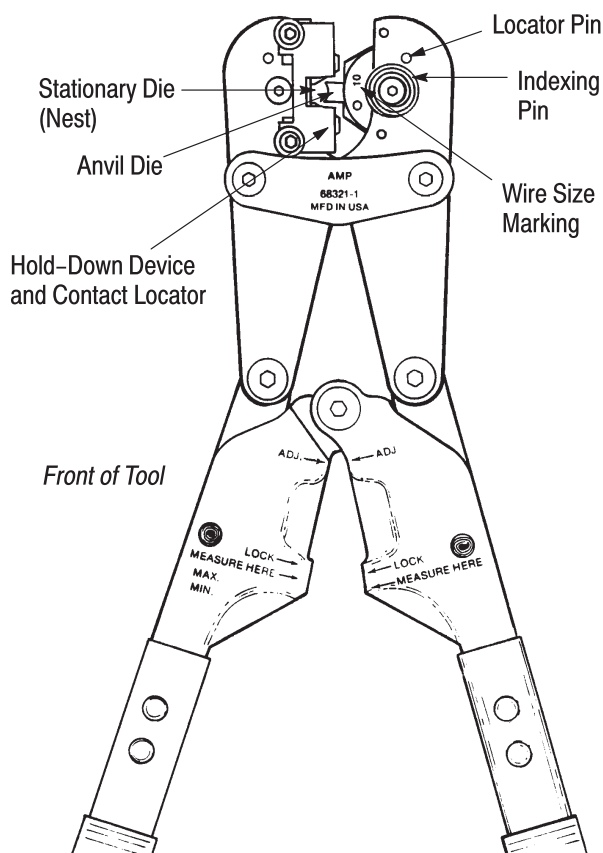

Figure 1
ROTA-CRIMP Crimping Tool 68321-1 (shown in Figure 1) is used to crimp Series 75 Power Lock Contact 53880-4 onto solid or stranded wire sizes 10, 8, or 6 AWG. Read these instructions thoroughly before using the tool.
1. Open the tool head. Make sure that the anvil die is locked in position and that the locator pin is visible as shown in Figure 1. It is not necessary at this time to set the anvil die to a specific wire size.